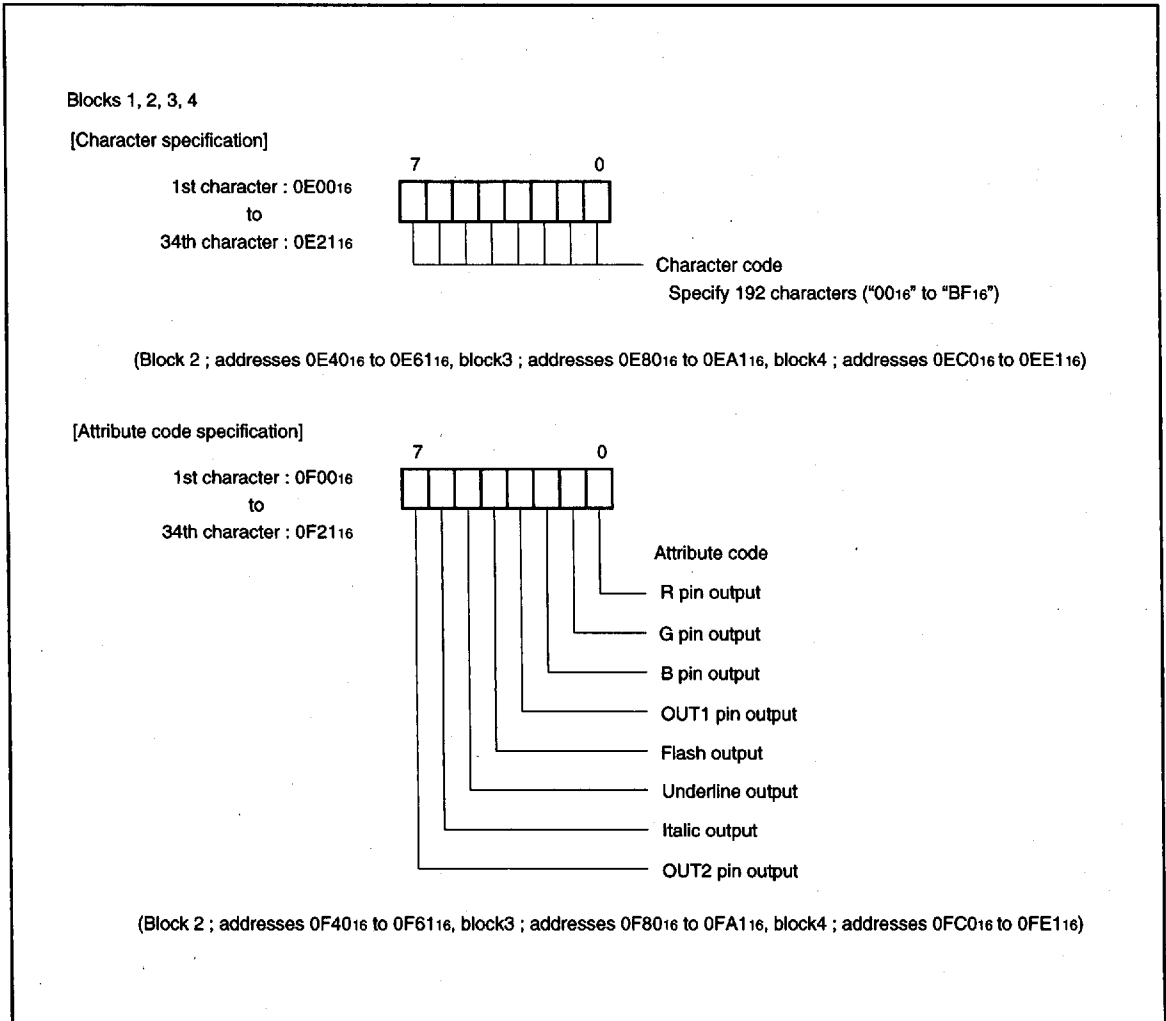

Fig. 58. Structure of CRT display RAM
For example, to display 1 character position (the left edge) in block 1, write the character code in address 0E00₁₆ and write the attribute code to address 0F00₁₆. For details on the attribute code, refer to (7) Attribute code. The structure of the CRT display RAM is shown in Figure 58.